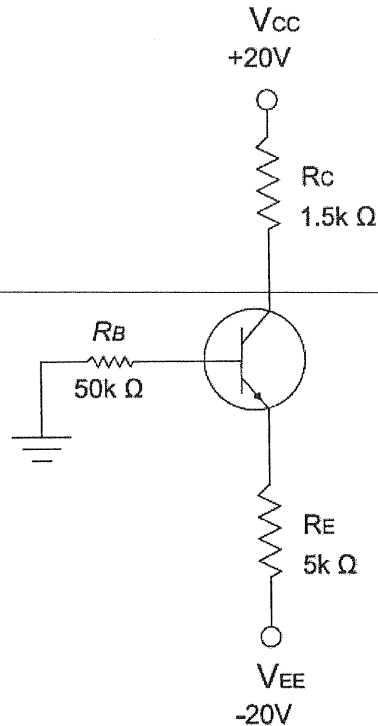

Figure 2
- (b) Determine the value of I_E and V_{CE} for the circuit in Figure 2 using the approximations $V_E \cong -2V$ and $I_C \cong I_E$.